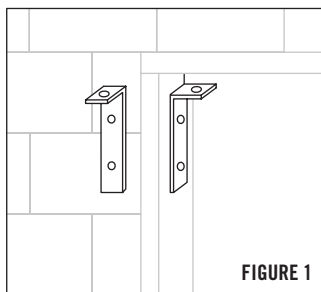

FIGURE 1
- 1) Before installing, decide on gate placement. L-bracket that forms top hinge allows gate placement in the recess of door frame. Installation can also be made outside or inside of wall next to door or opening frame. (See Figure 1)